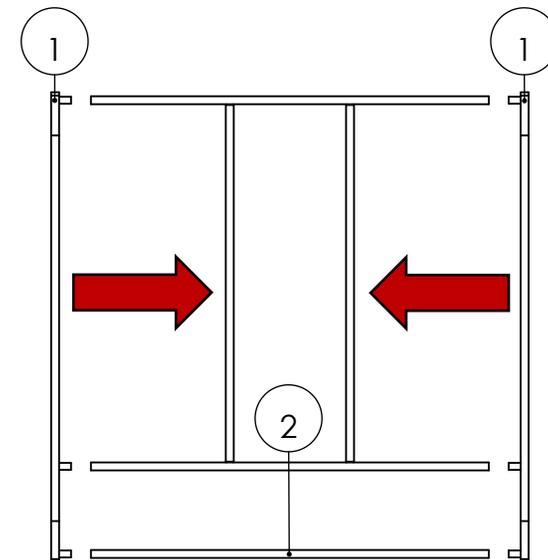

Figure 2
2. **Continue preparing the rack for assembly.** Arrange Crossbar A (Item No. 2) and both the Siderails (Item No. 1) as shown in Figure 2.